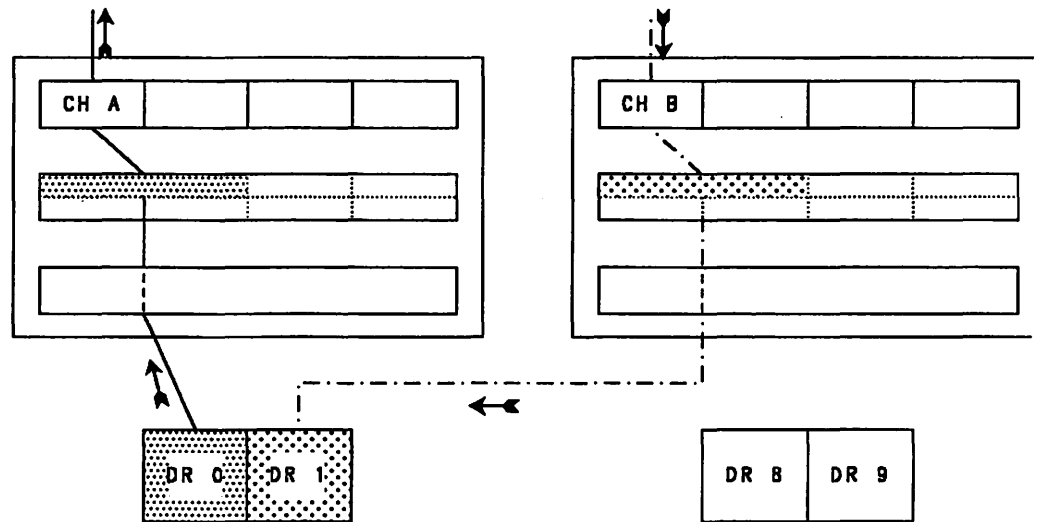

Figure 27. Dual Control Unit example, part 2
Figure 27 shows that the buffer for drive one was assigned from control unit 1. This probably happened because channel A was busy when the first I/O was tried to drive 1, and the alternate path (B) was not busy. Therefore, the first I/O to drive 1 came over channel B.
Each control unit has a separate path to each string of drives. This means that two drives on the same string can be transferring data to and from their buffer simultaneously. Figure 27 shows both drive 0 and drive 1 are transferring at the same time. If the buffer for drive 1 was in control unit 0, only one of the two drives (0 or 1) would be able to transfer at a time because there is only one path from the string to control unit 0.
Since drive-to-buffer transfers happen asynchronously from channel-to-buffer transfers, it is also possible for two channels to be transferring data into and out of buffers in separate control units. Look again at Figure 27 and you will see that both channels are also active.